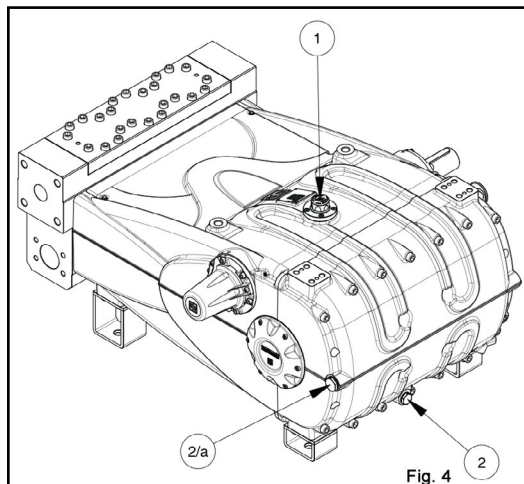

Fig. 4
Check the oil level by using the oil level dipstick (1), fig. 4. Refill if necessary to top off level. Correct oil level inspection is done with the pump at room temperature; oil is changed with the pump at working temperature, by removing the plug (2), fig. 4. Use the plug (2a) for the vertical position.